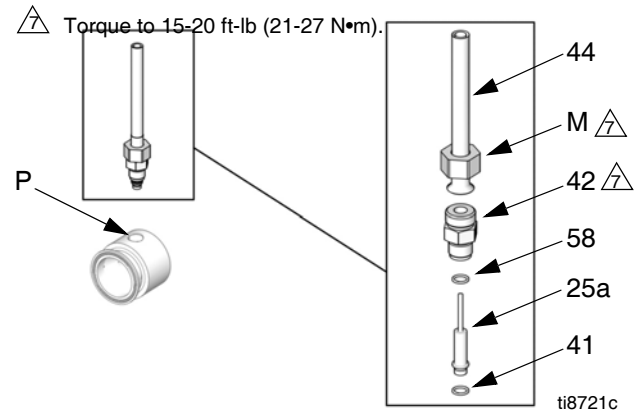

FIG. 12. Pressure Transducer
11. See FIG. 12. Loosen the nut (M) on the sensor conduit (44) and unscrew the adapter (42) from the transducer port (P). Remove the transducer (25a) from the port.
13. See FIG. 12. Install one new black o-ring (41) and the new brass spacer (58) on the transducer (25a).
16. See FIG. 12. Insert the transducer into the transducer port (P). Torque the adapter (42) first, then the nut (M) to 15-20 ft-lb (21-27 N•m).